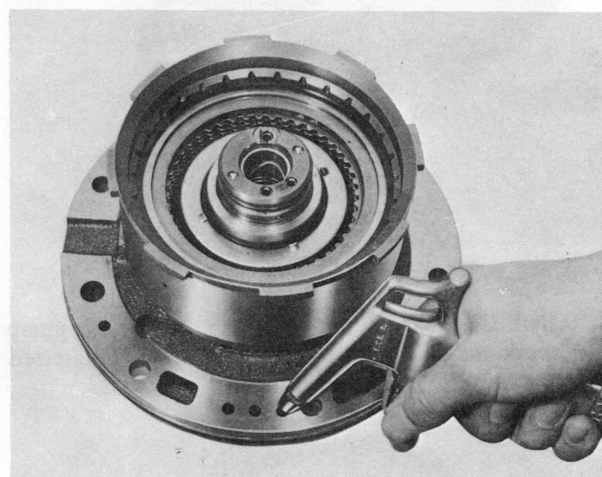

Fig. 7A-20 Testing front clutch
3. Install the front clutch assembly to the oil pump. Blow compressed air into the oil hole as shown in Fig. 7A-20 and check the clutch operation.